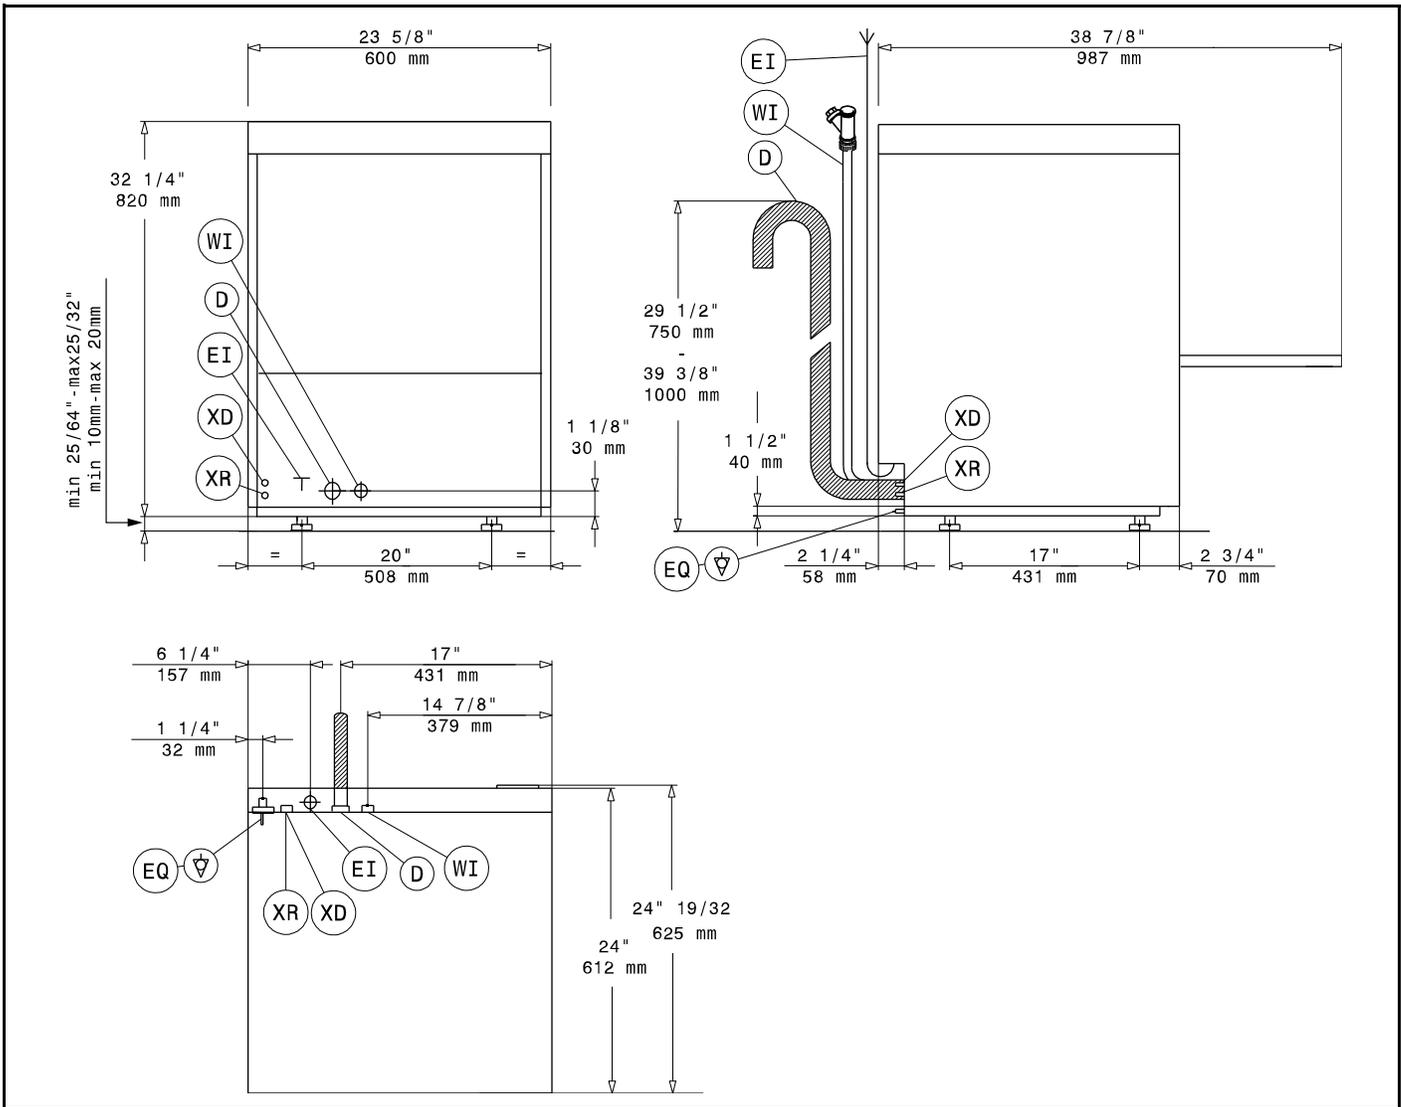
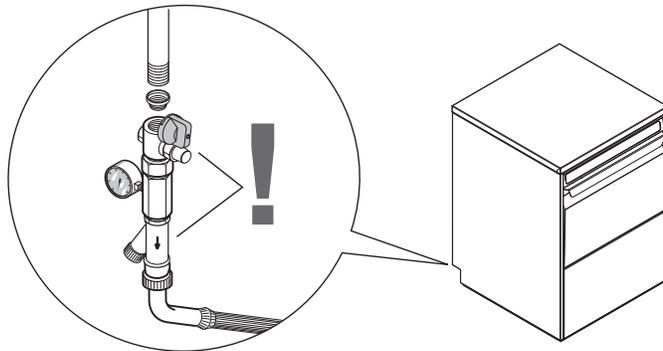

Figure 4
Figure 6
Legend Figure 4
- Connect the appliance water supply pipe “A” (Figure 4) (keeping with local plumbing codes) to the incoming water supply. Install a shutoff valve, Y-Strainer, and a pressure gauge between the appliance and the incoming water supply of the unit (Figure 6).
- The appliance requires a ground connection to the unit ground screw located at the rear of the unit marked “Q” (Figure 4) in the manual and marked with the symbol “⚡” on the unit. The ground wire must have a cross section of AWG 8/8.35 mm². Do not use the wiring conduit or other piping for ground connections. If necessary, have the electrician supply the ground wire.